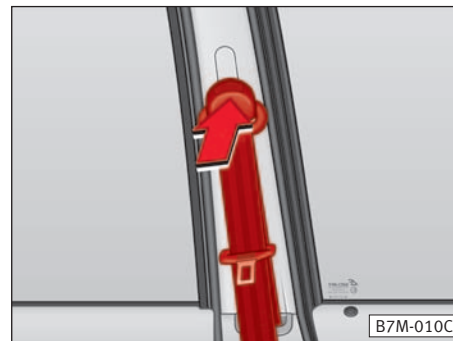

Fig. 10
- To adjust, push the upper relay fitting in the direction shown, hold in this position and move up or down so that the shoulder part of belt runs roughly across the centre of the shoulder ⇒ fig. 10 – **on no account against the neck.**